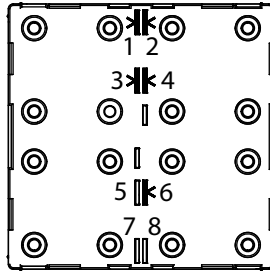

Bild 5: LEDs 1 - 4 + 6 light up
- Press buttons 6 – 3 – 5 – 5 in sequence (Figure 5).